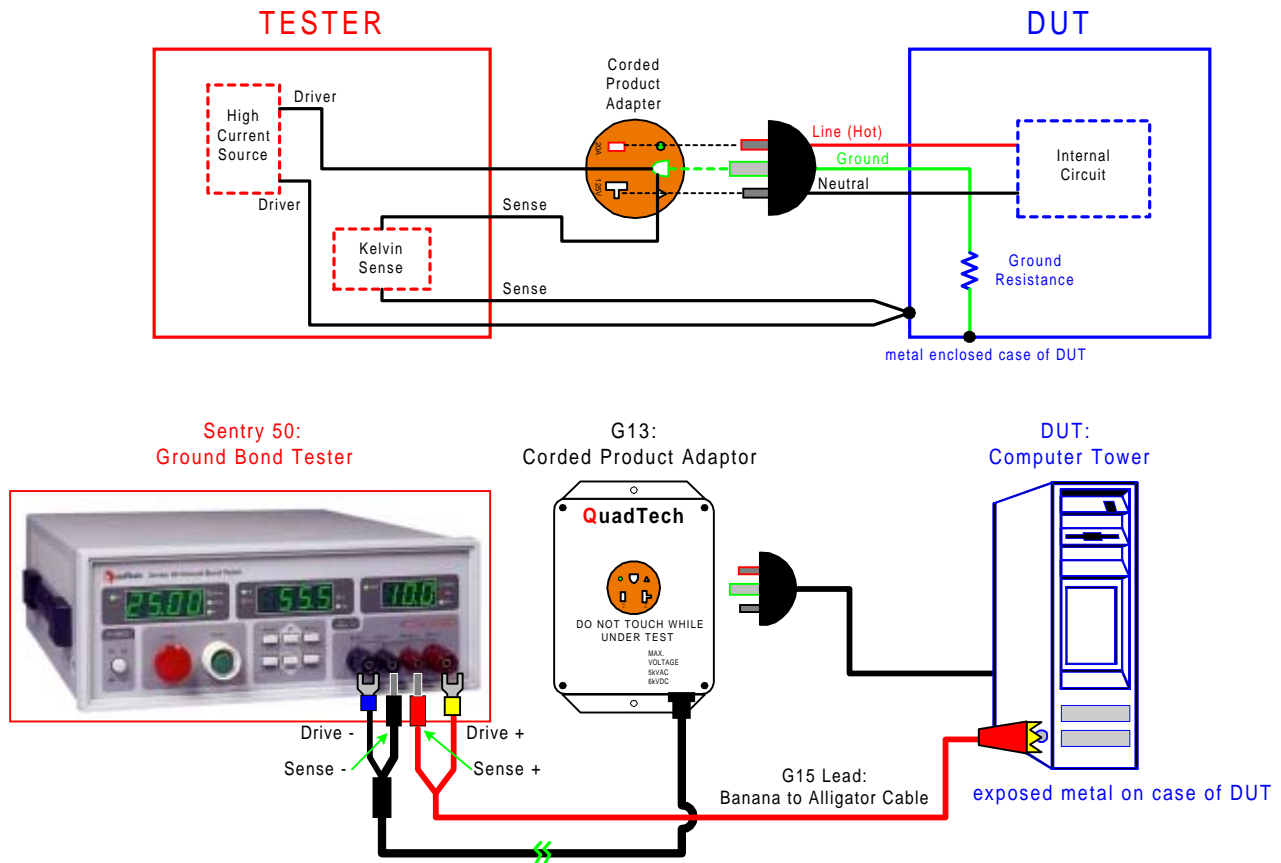

Figure 2: Ground Bond Test Setup
The device under test can take on many forms: an electronic instrument, a circuit within the electrical equipment or plug-in electrical devices. It's determining the protective earthing of circuits within electrical equipment and measuring their respective ground resistance that can be tricky. Let's look at three device examples and how a ground bond test would be performed to check for protective earthing of said devices. Take a computer hard drive tower. It has a 3-prong power cord, the 3rd wire being the ground plane, protective earth connection, for the tower itself. Inside the tower there are a many plug-in components (power supply, memory card, nic card, sound card, video card) but they are grounded by connection to the tower case. Figure 2 illustrates the most straightforward ground bond test, measuring the resistance through the power cord.
The ground bond test in Figure 2 verifies the ground connection of the case of the DUT (here a computer monitor) through the power cord, also known as the chassis ground connection. Earthing and bonding refer to the grounding of any exposed metal on the device under test (DUT) to the main Protective Earthing (PE) terminal. Before a high voltage (hipot) stress test is done, a ground bond test is typically done to verify that the DUT is indeed grounded before the high voltage is applied. A 4-terminal Kelvin connection to the DUT is illustrated in Figure 2.